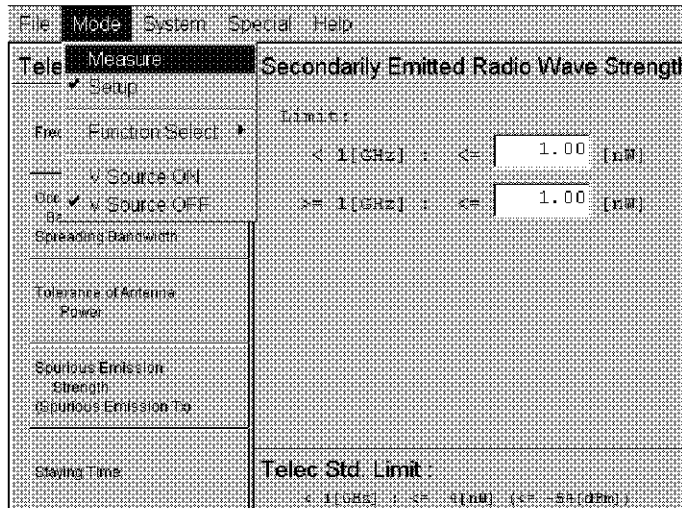

Figure 2-41 Switching from the Setup Mode to the Measure Mode
- Click **Mode** on the main menu and select **Measure** from the drop down menu. The screen switches to the measurement screen (Refer to Figure 2-41).